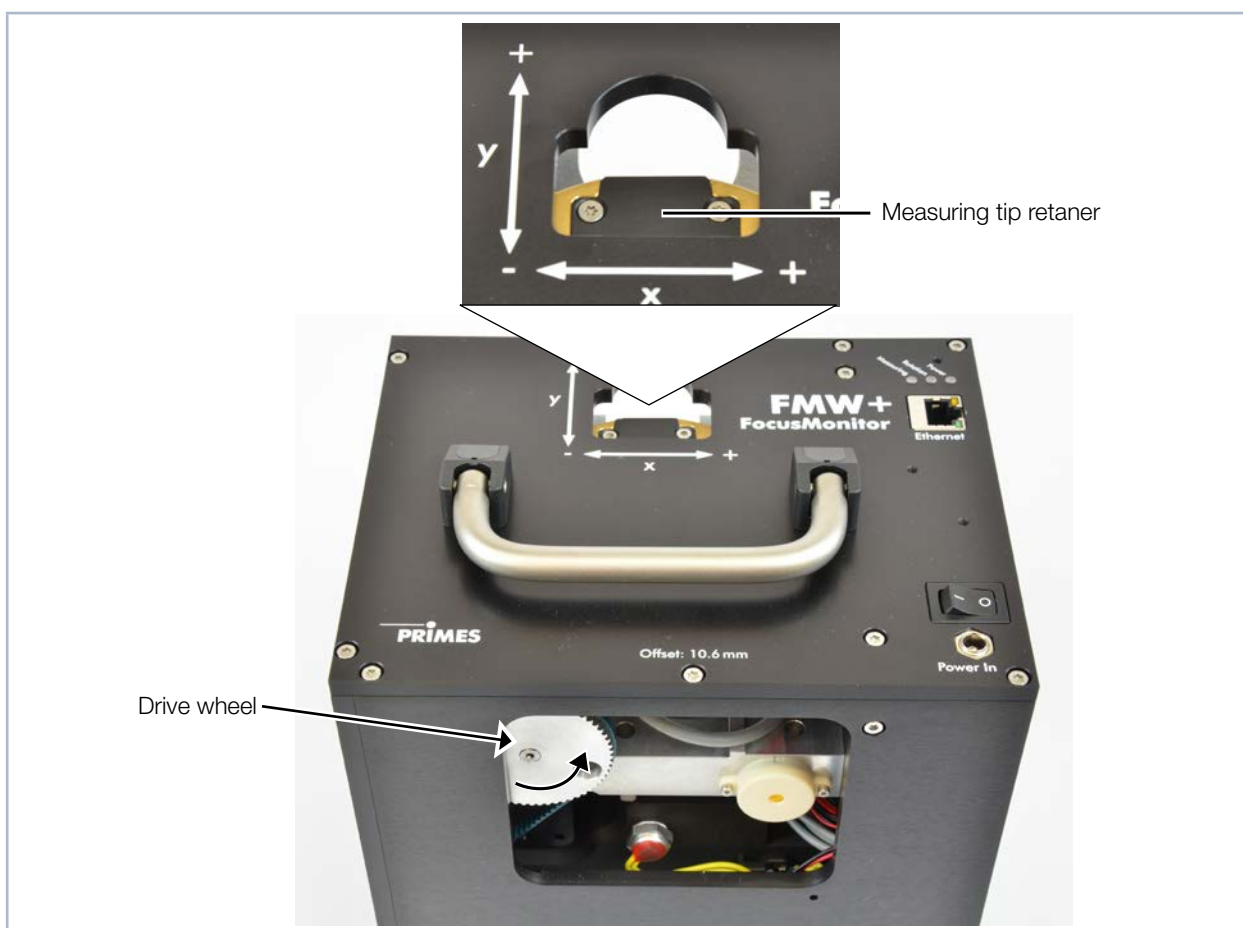

Fig. 13.1: Moving the disc into the measuring window
2. Turn the drive wheel (see Fig. 13.1) clockwise until the disc extends approx. 15 mm into the measuring window in a positive y-direction.